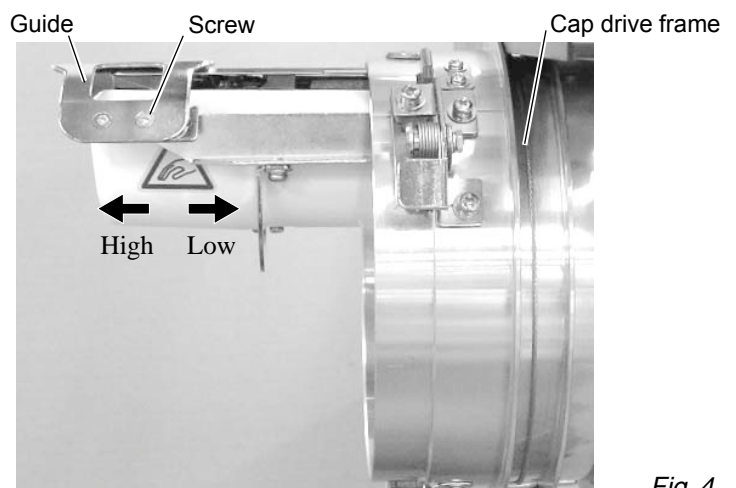

Fig. 4
2. Adjust the guide position to suit the height of the cap. Remove screws at left and right to adjust. (Fig. 4)
6. As shown in Fig. 4, tip the cap stretcher forward. Clip the back of the cap in two places by stretching the crease out as shown by the arrows.